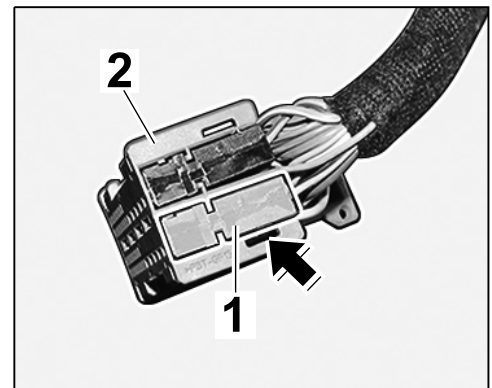

Figure 22
- 3.10.4 Push grey plug socket ⇒ *Figure 22 -1-* into the plug carrier (coding: blue) ⇒ *Figure 22 -2-* until the locking mechanism ⇒ *Figure 22 -arrow-* engages.